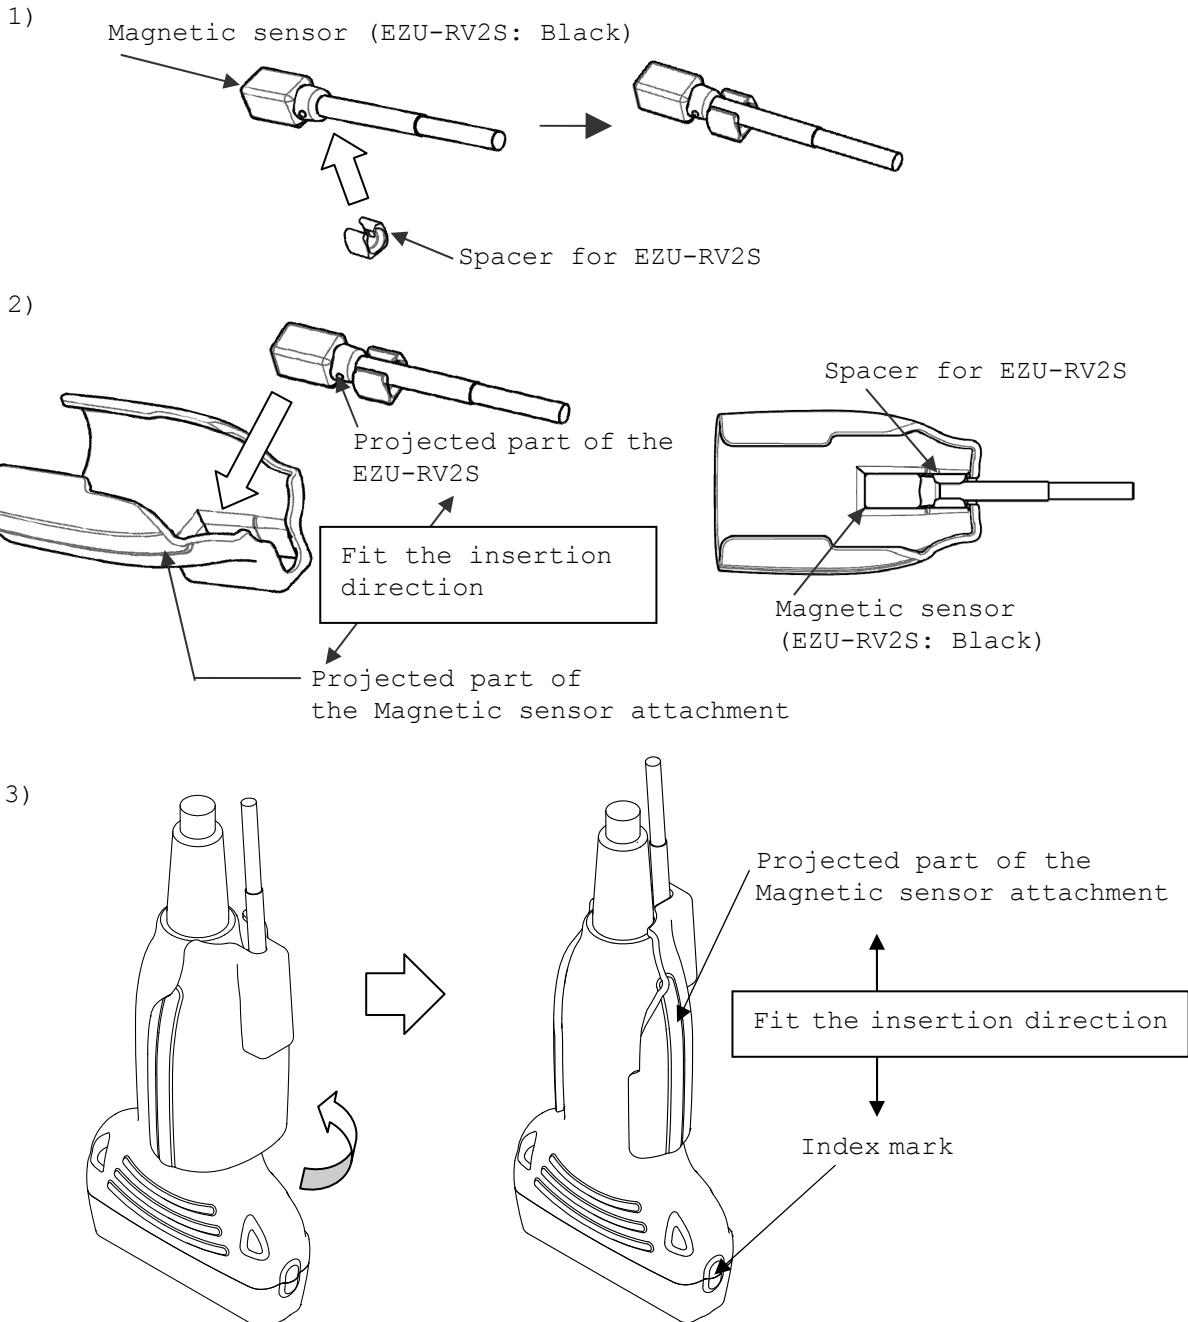

Fig. 4 How to attach the Magnetic sensor attachment
- 2) Insert the magnetic sensor into the magnetic sensor attachment with the correct direction as shown in Fig. 4.